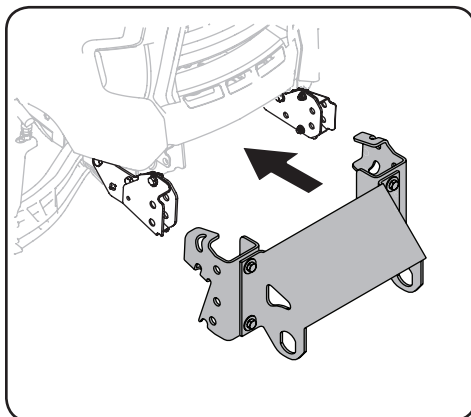

Figure 2-3
1. Slide large mounting bracket into brackets installed earlier on tractor. See Figure 2-3.